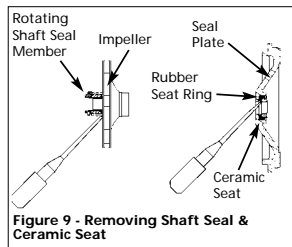

Figure 9 - Removing Shaft Seal & Ceramic Seat
- Remove the rotating shaft seal member from the impeller (Figure 9).
- Push or pry the ceramic seat free from the seal plate (Figure 9).